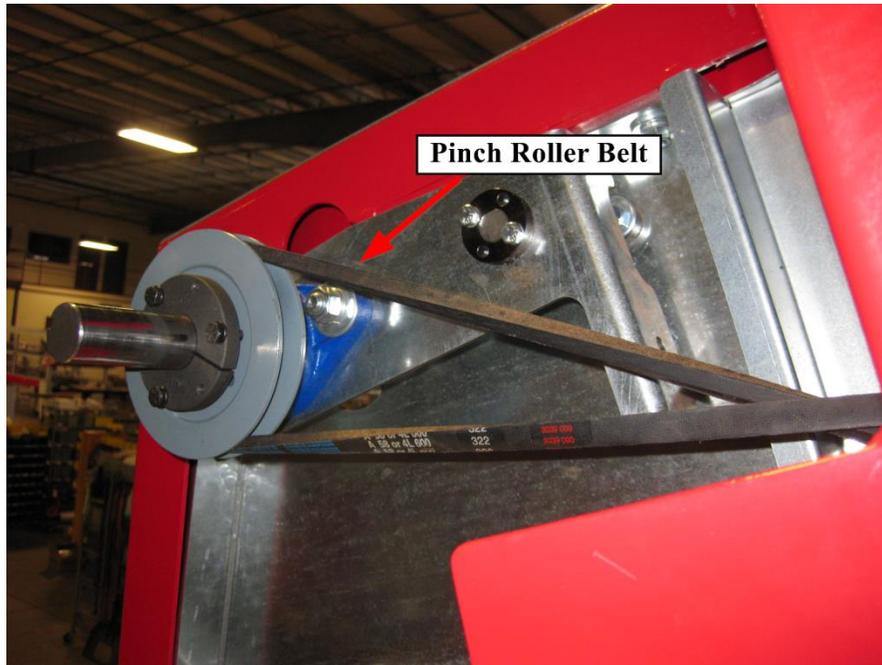

Figure 2
2. Remove the pinch roller belt from the pinch roller. Do not remove it from the motor shaft. Simply allow it to hang from the shaft. See Figure 2.